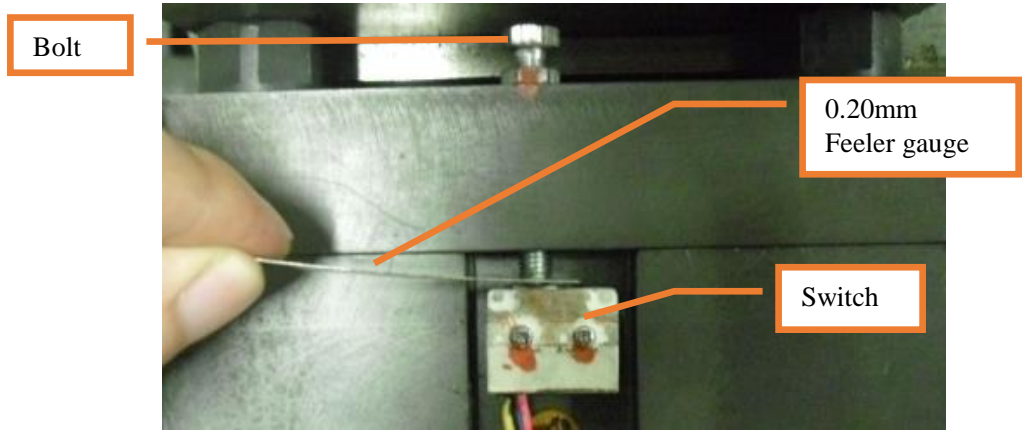

Figure 32: Using feeler gauges
- Use feeler gauges to make sure the new switch is functional by inserting feeler gauges between the bolt M4x50 and the switch. The switch should not activate when inserting 0.10mm (0.004”) feeler gauge and it should activate when inserting 0.20mm (0.008”) feeler gauge. Otherwise, readjust the activation bolt until it works and then repeat step 5 above. See Figure 32.